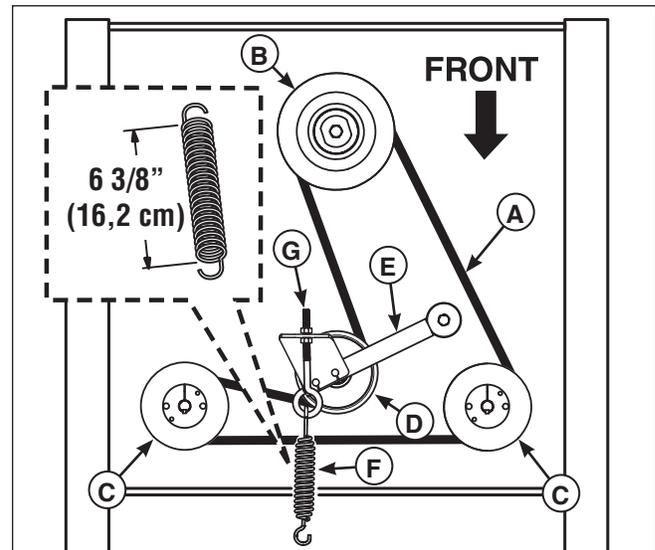

Figure 52. Hydraulic Drive Belt Replacement
4. Loosen the nut on the spring anchor eyebolt (G, Figure 52) to release the majority of the belt tension. Use caution and remove the nut to completely release the tension.
6. Reinstall the spring anchor eyebolt (G) into the anchor tab and loosely fasten the nut. Adjust the anchor eyebolt until a measurement of 6-3/8" (16,2 cm) is achieved from spring body. Tighten nut.